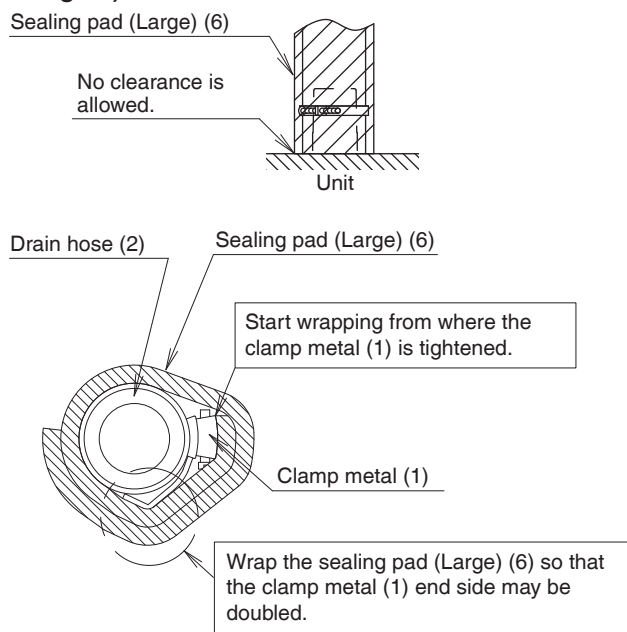

Fig. 18
- Use the provided sealing pad (large) (6), and perform the thermal insulation of the clamp metal (1) and drain hose (2) after checking the drainage of water. (**Refer to Fig. 18**)